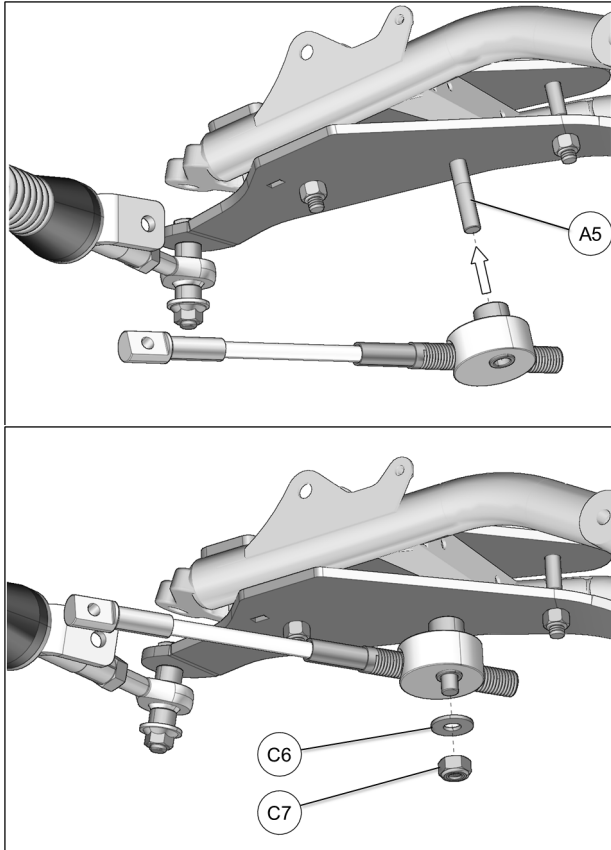

Fig. 25
13. Position limiter cable assembly's aluminum disk under M10x90mm bolt (A5), previously inserted in step 6. Make sure arrow on top of aluminum disk points towards front of the vehicle. Slide assembly over bolt and use washer (C6) and nut (C7) to secure assembly to anchor bracket. Tighten nut to 50 N•m [37 lb•ft]. Refer to Fig. 25